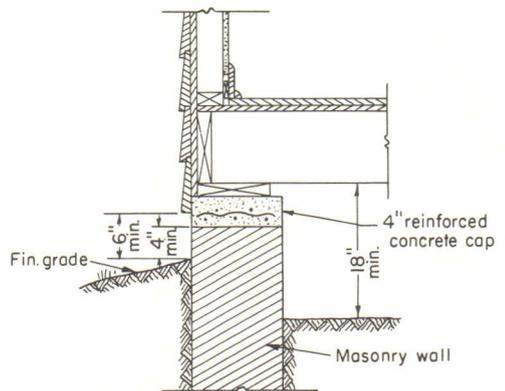

FIG. 4(13)
- masonry walls or piers capped with a minimum of 4" of reinforced poured concrete or its equivalent will also be effective (see fig 4).